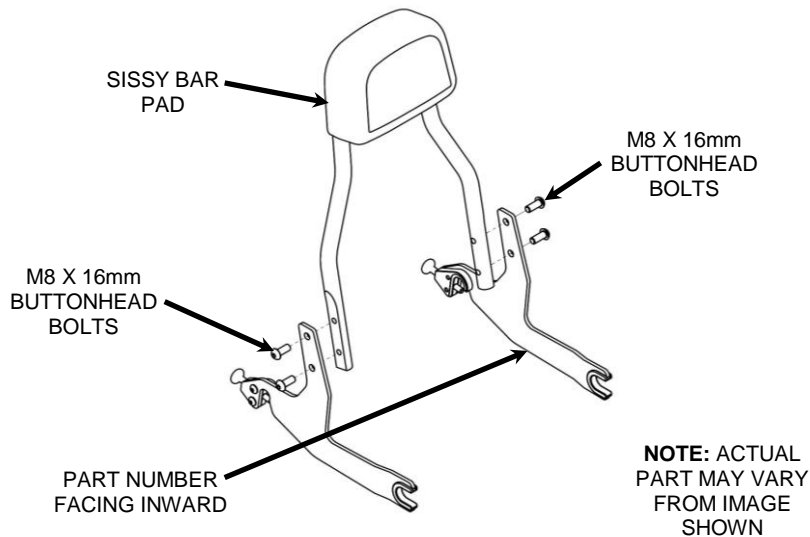

FIGURE 3
6. Install the supplied side plates on to the sissy bar with the four M8 X 16mm button head bolts. Make sure the u-shaped grommets are facing the same direction as the sissy bar pad and the part numbers are facing inward. See **FIGURE 3**. Snug the bolts but **DO NOT TIGHTEN** at this time.